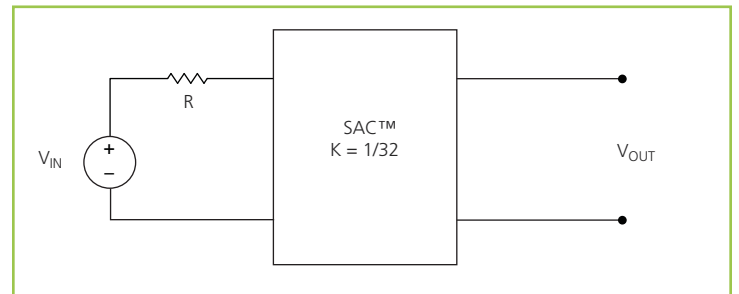

Figure 18 — K = 1/32 Sine Amplitude Converter™ with series input resistor
R_{OUT} = 0 Ω and I_Q = 0 A, Eq. (3) now becomes Eq. (1) and is essentially load independent. A resistor R is now placed in series with V_{IN} as shown in Figure 18.
Assuming that $R = 1 \Omega$, the effective R as seen from the secondary side is $0.98 \text{ m}\Omega$, with $K = 1/32$ as shown in Figure 18.